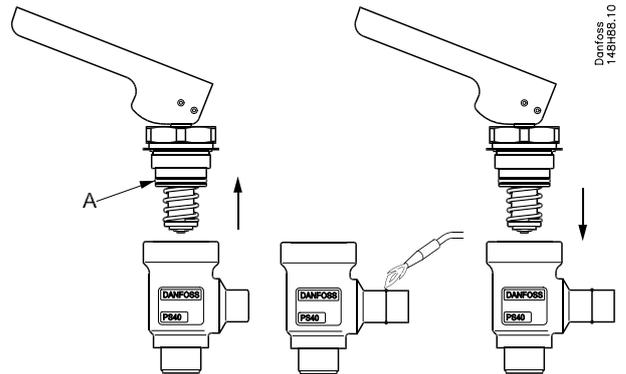

Fig. 3
#### Replacement of the O-ring between the bonnet and the valve body (fig. 3):
**Dismantling the valve (fig. 3):**